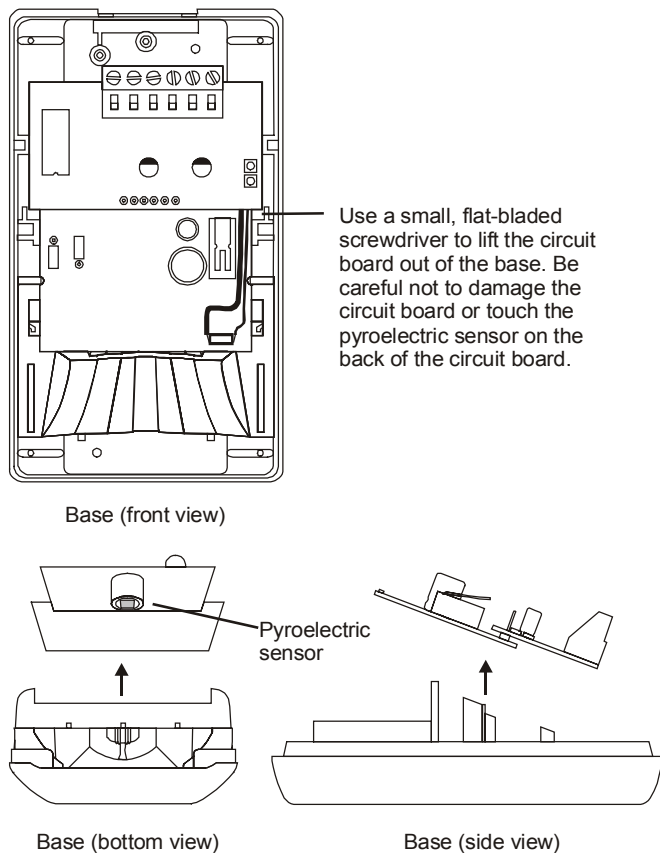

Figure 4: Removing the circuit board assembly
3. Remove the circuit board assembly (Figure 4).
4. Remove the circuit board to expose the swivel screw. (See Figure 4.)
1. If necessary, remove the circuit board as instructed in Figure 4. Remember to observe electro-static precautions.